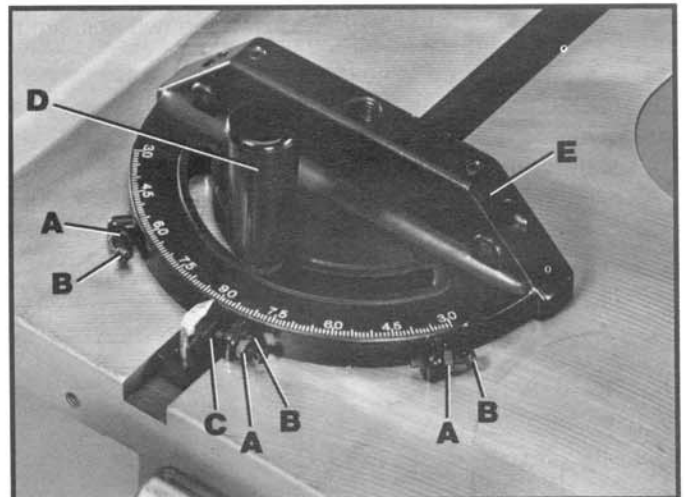

Fig. 30
Your miter gage is equipped with individually adjustable index stops at 90 degrees and 45 degrees right and left. Adjustment to the index stops can be made by loosening lock nuts (A) Fig. 30, and tightening or loosening the three adjusting screws (B) against the stop link (C).
To operate the miter gage, simply loosen lock handle (D) Fig. 30, and move the body of the miter gage (E) to the desired angle. The miter gage body will stop at 90 degrees and 45 degrees both right and left. To rotate the miter gage body past these points, the stop link (C) must be flipped out of the way.